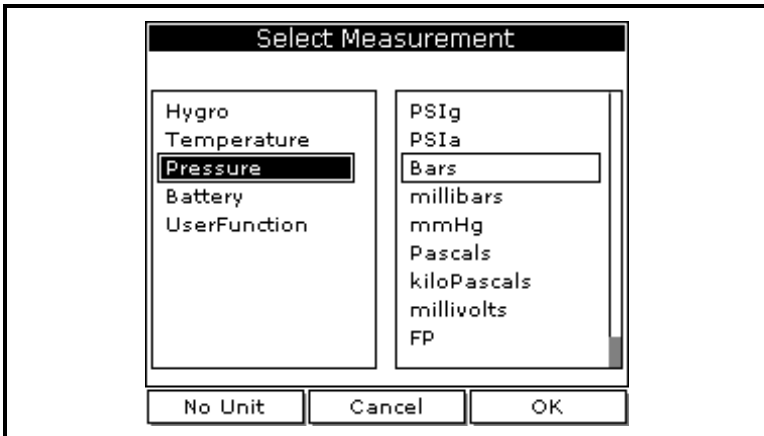

Figure 6-4: The Select Measurement Window
- Use the [▼] key to step to a box and press [ENTER]. A screen similar to Figure 6-4 below appears.